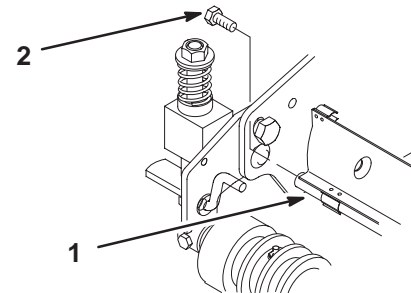

Figure 4
13. On the right side of the cutting unit, remove the capscrew securing the shield rod to the side plate (Fig. 4).